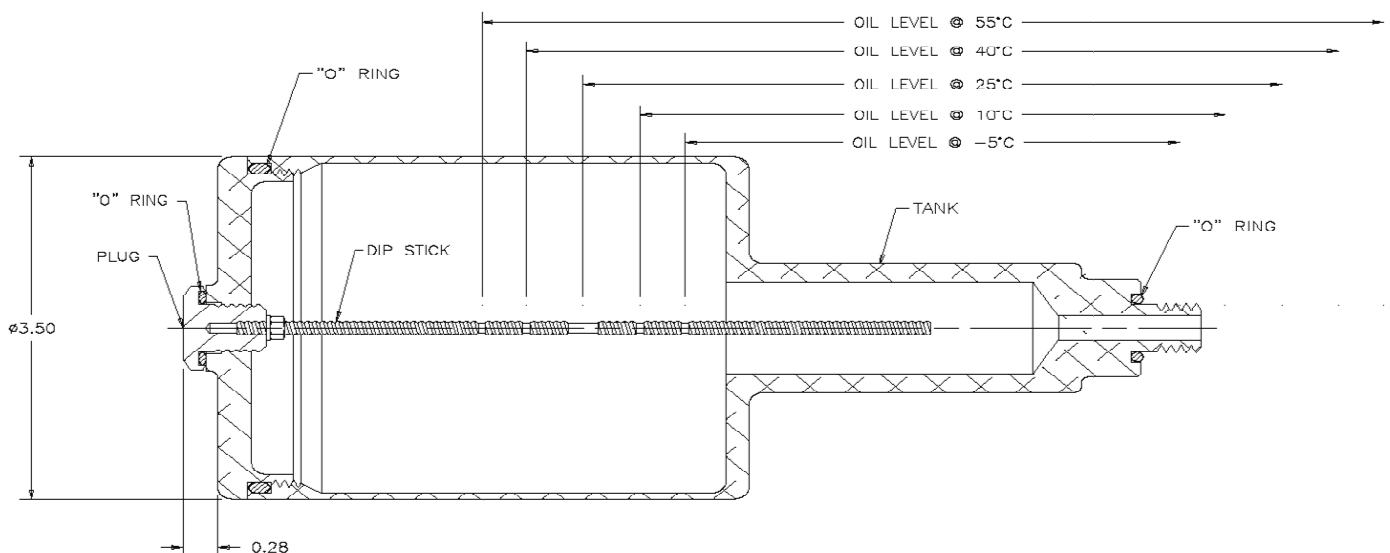

Figure 1: Oil Level Chart
8. Add oil to the reservoir until the oil level in the reservoir is at the proper level. **FOR PROPER OIL LEVEL INDICATION, THE OIL THAT YOU ADD TO THE BUSHING SHOULD BE THE SAME TEMPERATURE AS THE OIL IN THE BUSHING.** Use the dip stick to measure the oil level. The top mark is for 55°C, the second for 40°C, the middle for 25°C, the fourth for 10°C, and the bottom for -5°C oil temperature. (See Figure 1) Interpolation between marks is not critical. If in doubt, use slightly less oil.